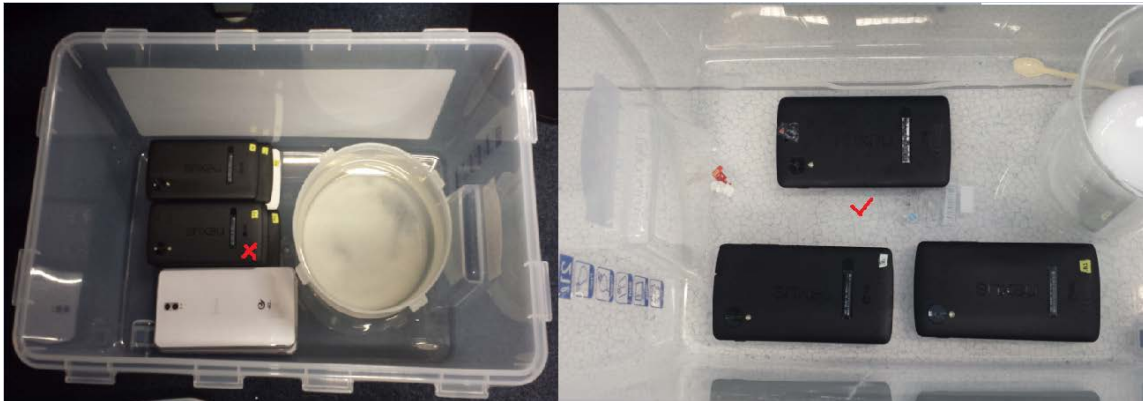

Figure 2: Guide how to place phone in box
- ▶ The phones shouldn't be stacked in box, as shown in Figure 2.